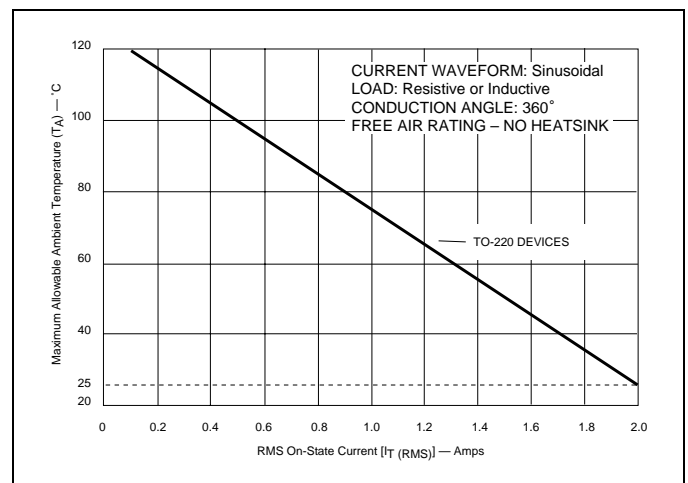

Figure 4.16 Maximum Allowable Ambient Temperature vs On-State Current
- (1) For either polarity of MT2 with reference to MT1 terminal.
- (2) For either polarity of gate voltage (V_{GT}) with reference to MT1 terminal.
- (3) See Definition of Quadrants.
- (4) See Figures 4.1 through 4.4 for current rating at specific operating temperature and Figure 4.16 for free air rating (no heat sink).